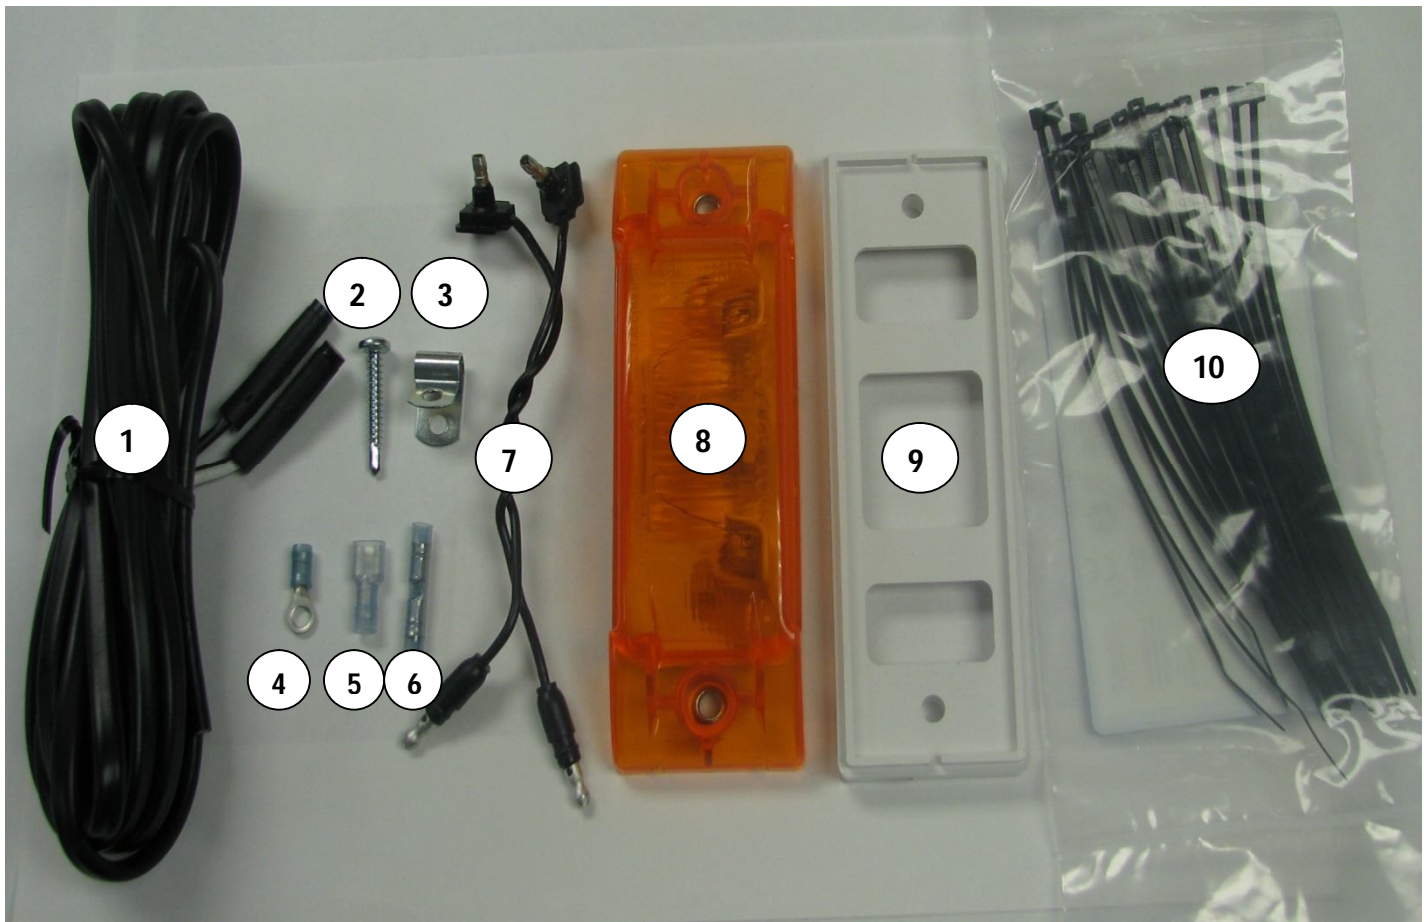

Figure 27
- This section gives the basic instructions on wiring the Aeris system and routing the electrical wiring from the power source to the control box and light. Hardware kit is shown below with items needed to install wiring and light. See Figure 27